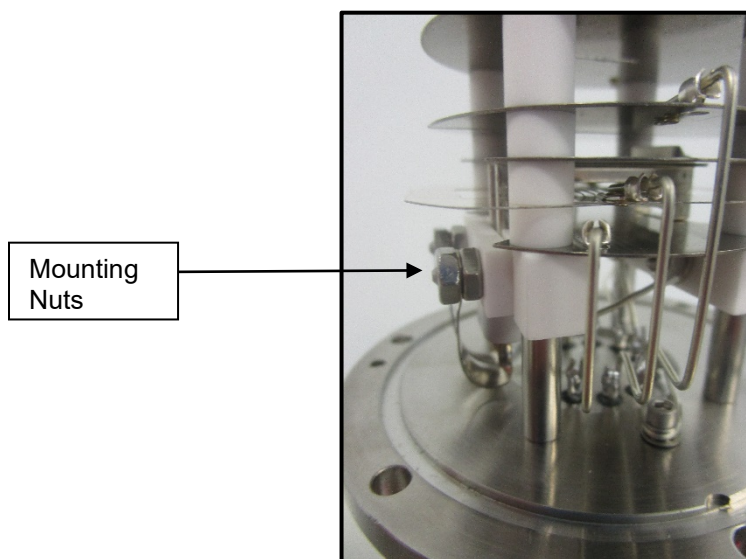

Fig 2.1
1. Remove the four mounting nuts that secure each filament using a ¼ nut driver. Refer to figure 2.1